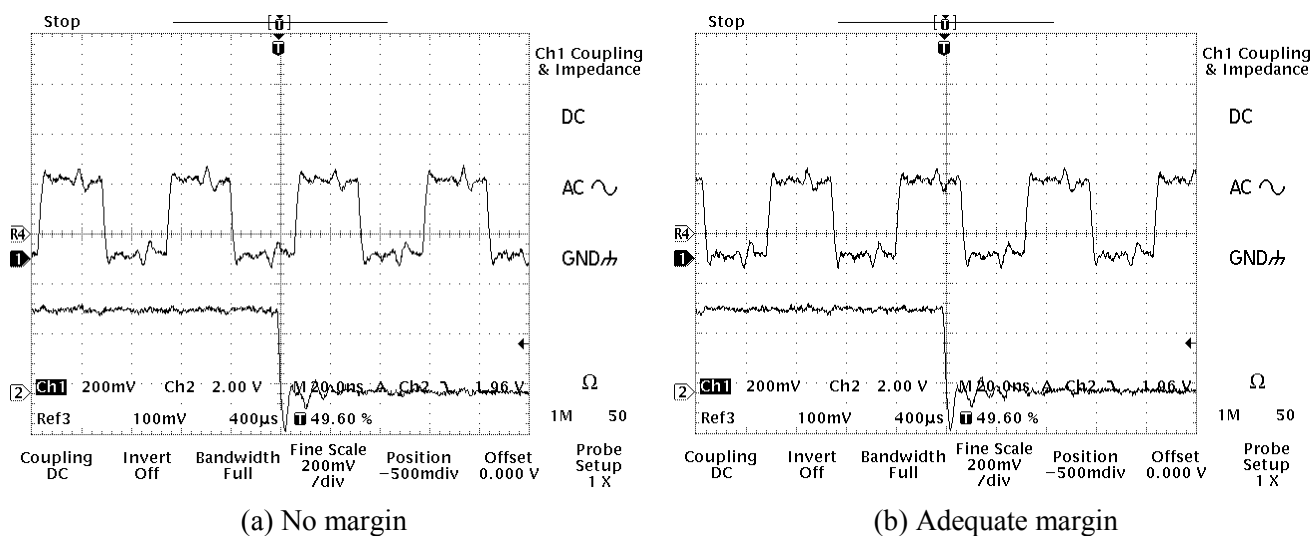

Figure 9-3: Phase Adjustment between Synchronization Signals and Clocks
- If the noise extends to the vertical edge of the display area when the PLL division ratio is changed, turn the *Clock Phase Invert* and *IP Clock Phase Invert* checkboxes inside the adjustment window on and off. Confirm the waveform. Fix the phase adjustment so that the fall edges of *V-sync* and *H-sync* and the rise edge of *Clk* are not close to each other. **Figure 9-3** shows the phases of the H-sync fall edge and the Clk rise edge. In (a), the *Clock Phase Invert* is turned ON because of an inadequate amount of available margin.